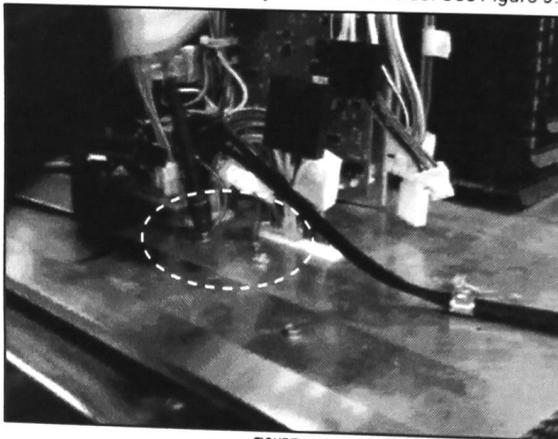

FIGURE 9
11. Remove the grounding wire connections to the unit high voltage (HV) box assembly. Set screws aside. See Figure 9.